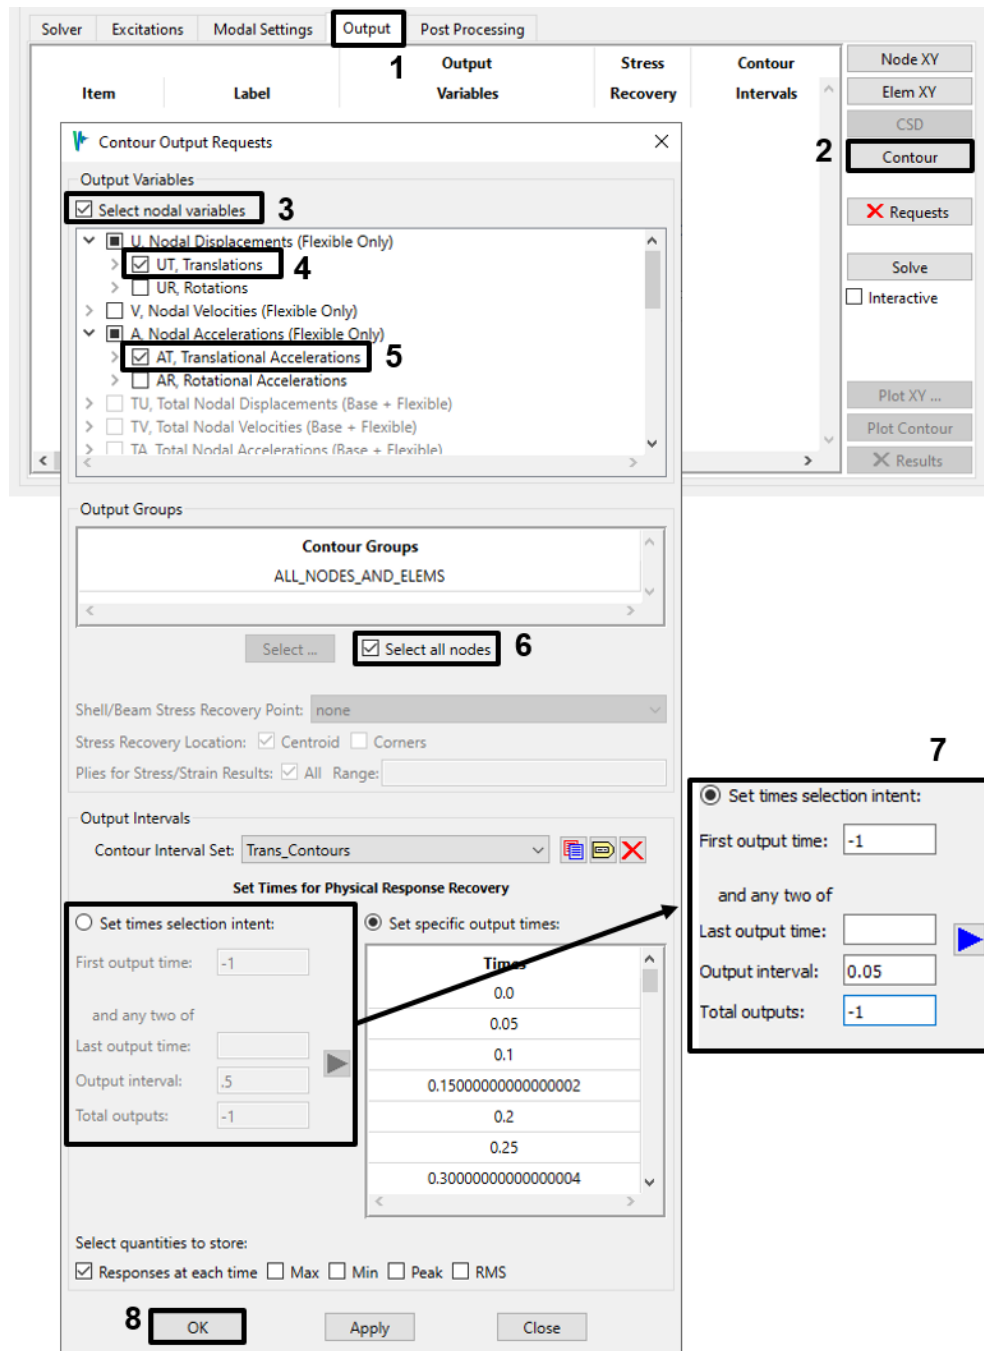

Figure 4-99. Request displacement and acceleration contours for all nodes at 0.05 second intervals.
7. On the Output tab, create a contour request for translational displacements and accelerations (UT and AT) for all nodes in the model. Request output at 0.05 second intervals to span the defined start and end times of the event (Figure 4-99); for a 4.0 second time span, this will produce 81 output time steps. Note that Vibrata will change your definition to its preferred form (inset) when you click **Apply** or **OK**; this will produce the same results as settings you entered. Click **OK** to create the request.